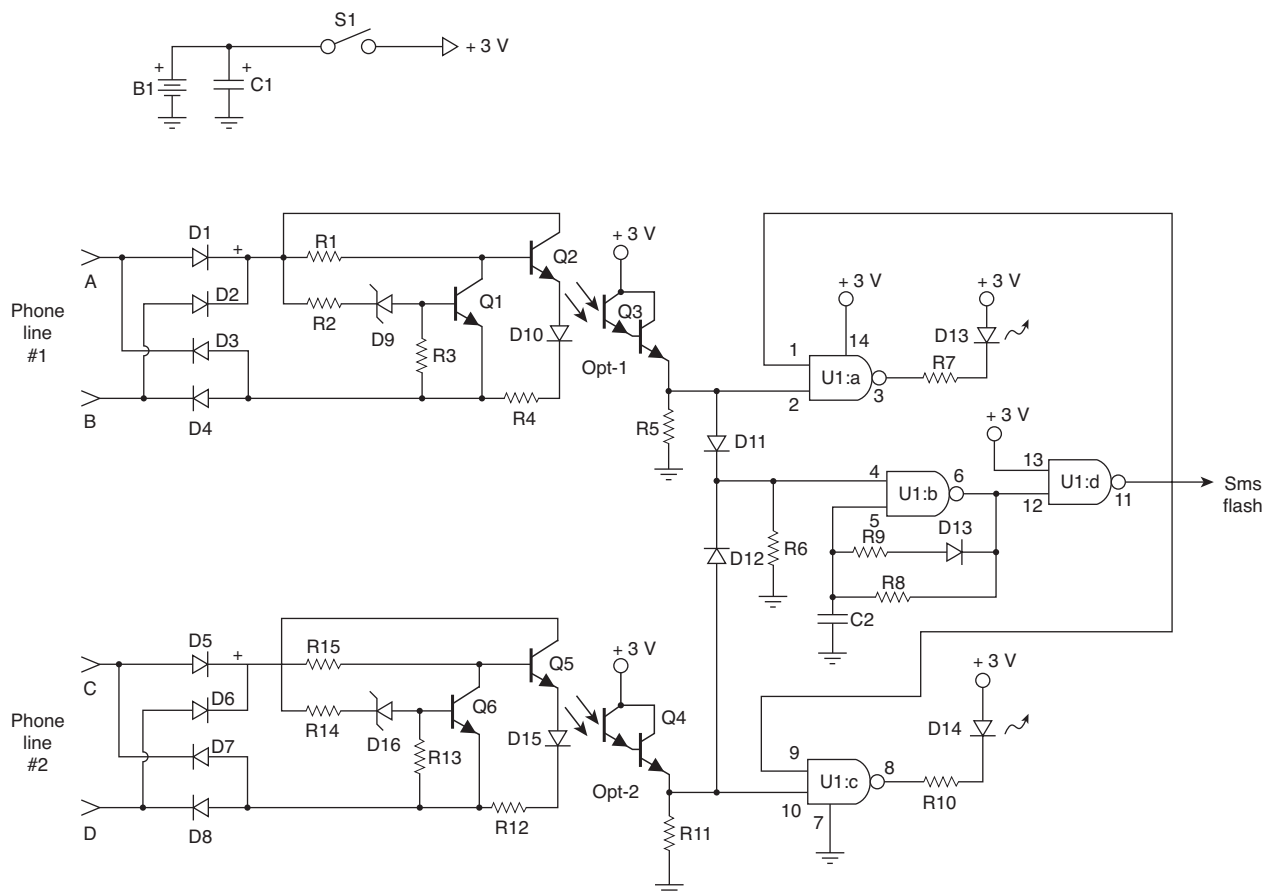

Figure 14-7 Two-Line Phone status indicator. Courtesy of Dave Johnson & Associates
The Two-Line Phone Status Indicator circuit will allow you to monitor the status of two telephone lines using a single circuit. The 2-line phone monitor is depicted in Figure 14-7. The phone line enters the circuit at two different points (A) and (B) for phone line number one and at terminals (C) and (D) for phone number two.